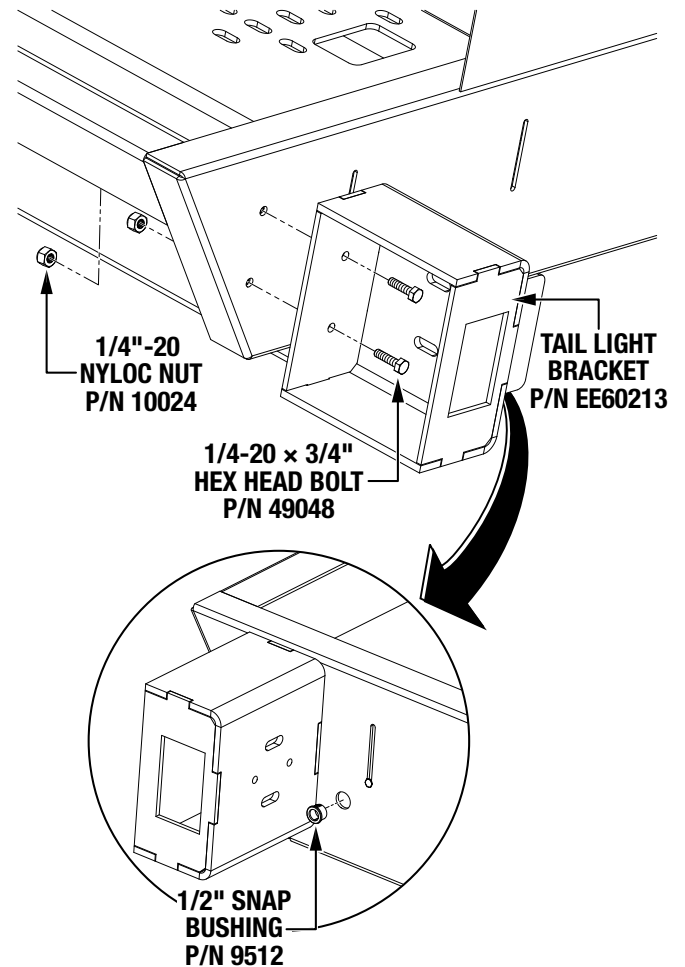

Figure 4. Tail Light Bracket Installation (Concrete Mixers)
- Secure the tail light bracket (P/N EE60213) to the frame with two 1/4-20 x 3/4" hex head bolts (P/N 49048) and two 1/4"-20 nyloc nuts (P/N 10024). See Figure 4.
- Insert a 1/2" snap bushing (P/N 9512) into the newly drilled 1/2-inch hole. See Figure 4.